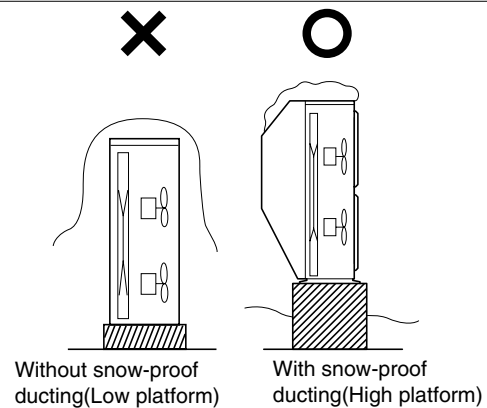

Fig. 2-13
- (1) The platform should be higher than the max. snow depth. (Fig. 2-13)
- (2) The 2 anchoring feet of the outdoor unit should be used for the platform, and the platform should be installed beneath the air intake side of outdoor unit.
- (3) The platform foundation must be firm and the unit must be secured with anchor bolts.
- (4) In case of installation on a roof subject to strong wind, countermeasures must be taken to prevent the unit from being blown over.